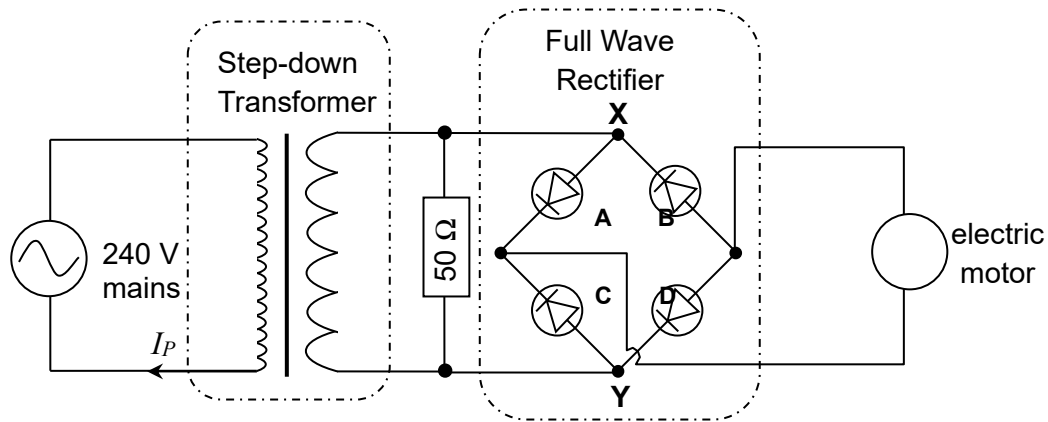

Fig. 7.1
- 7 A 240 V a.c. mains is connected to a step-down transformer, a full wave rectifier and a motor as shown in Fig. 7.1. The electric motor requires an operating peak power of 6.6 W.
On Fig. 7.1, draw an arrow to indicate the direction of current, if any, across the four diodes A, B, C and D during this half of a period.